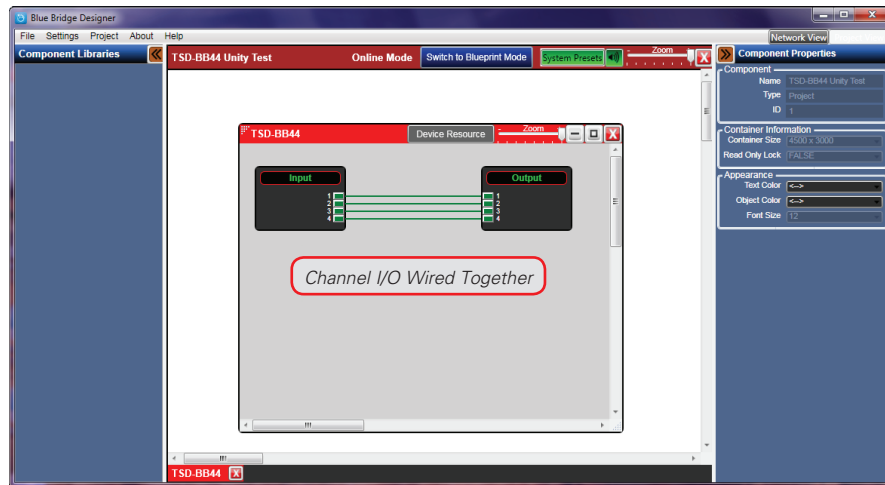

Figure 21
- To see how the DSP Hardware Device is internally configured, double click on the Processor Hardware device. The internal configuration of the DSP design file will appear as shown in Figure 21.
- Once the DSP Hardware Device is open, the design file can be accessed as shown in Figure 21. The example below shows a TSD-BB44 Unity Design Test file factory pre-loaded where as the input block is wired to the output block. **Note:** Further on, there will examples of designs with DSP Modules applied to the Design file.